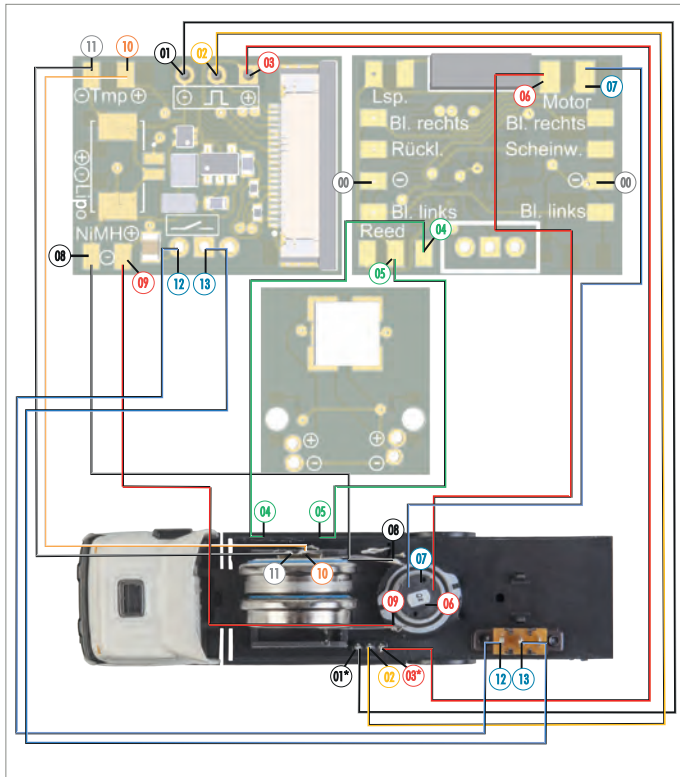

Abb. 39: Wiring diagram, Wiring diagram, Type Bus model
***NOTE:** Locate the "+" (plus) terminal of the charging port that you previously identified and marked, and connect it to terminal "03" on the conversion board. In the wiring diagram Abb. 39 are "01" and "03" For vehicles, these are merely examples of possible configurations. See also Chapter "Convert a vehicle".